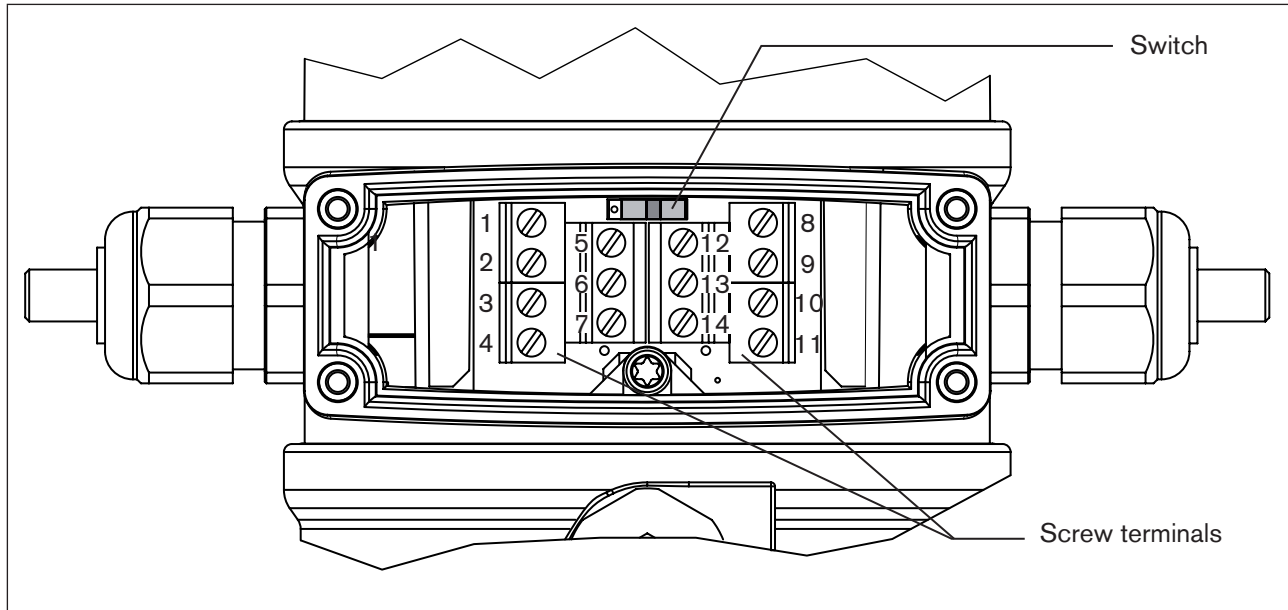

Figure 32: Terminal board with screw terminals and switch
14) The switch is situated on the terminal board of the positioner (see “Figure 32”)